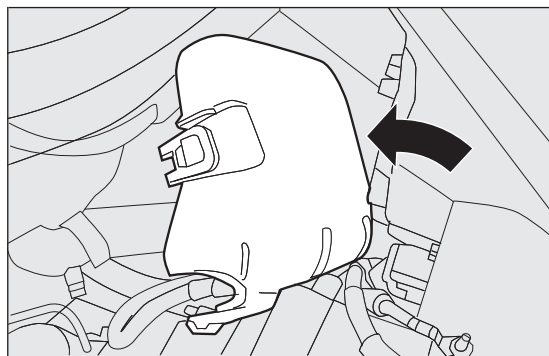

fig. 160
- ☐ the fuse box can be accessed in this manner fig. 160.